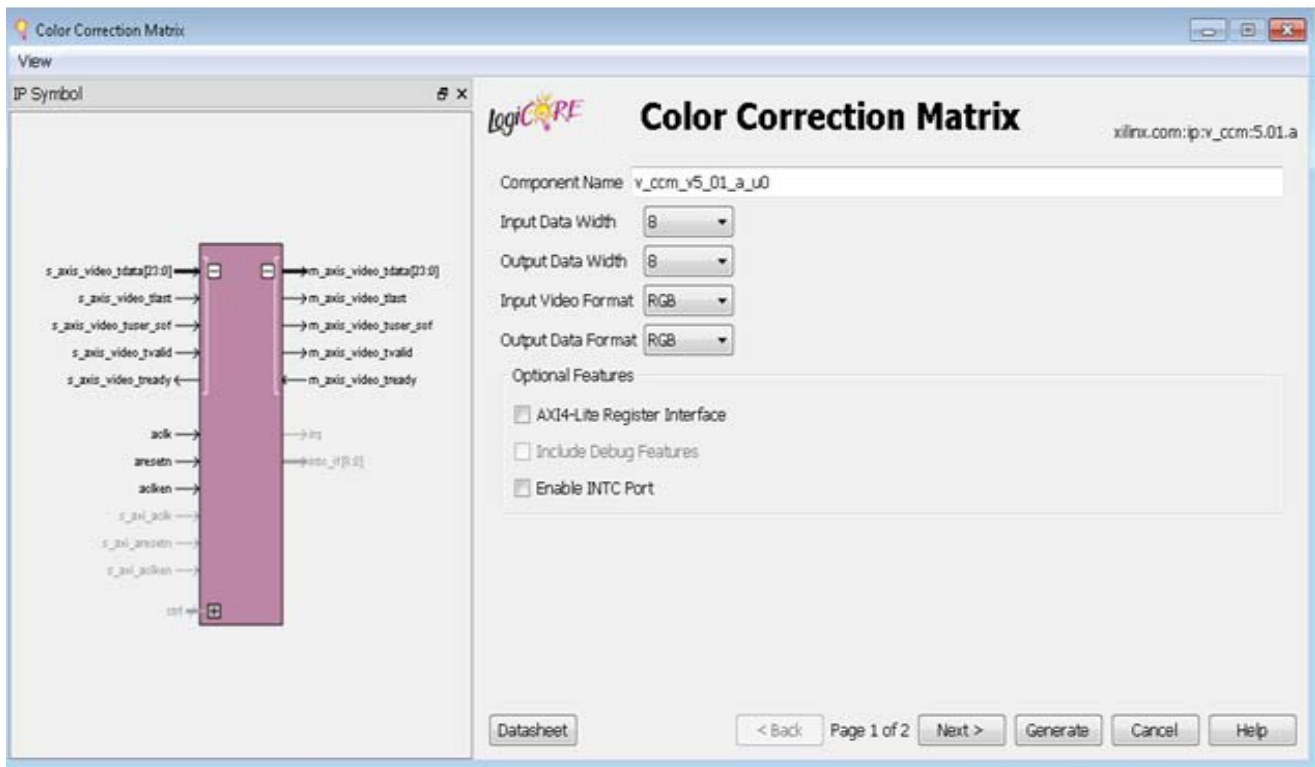
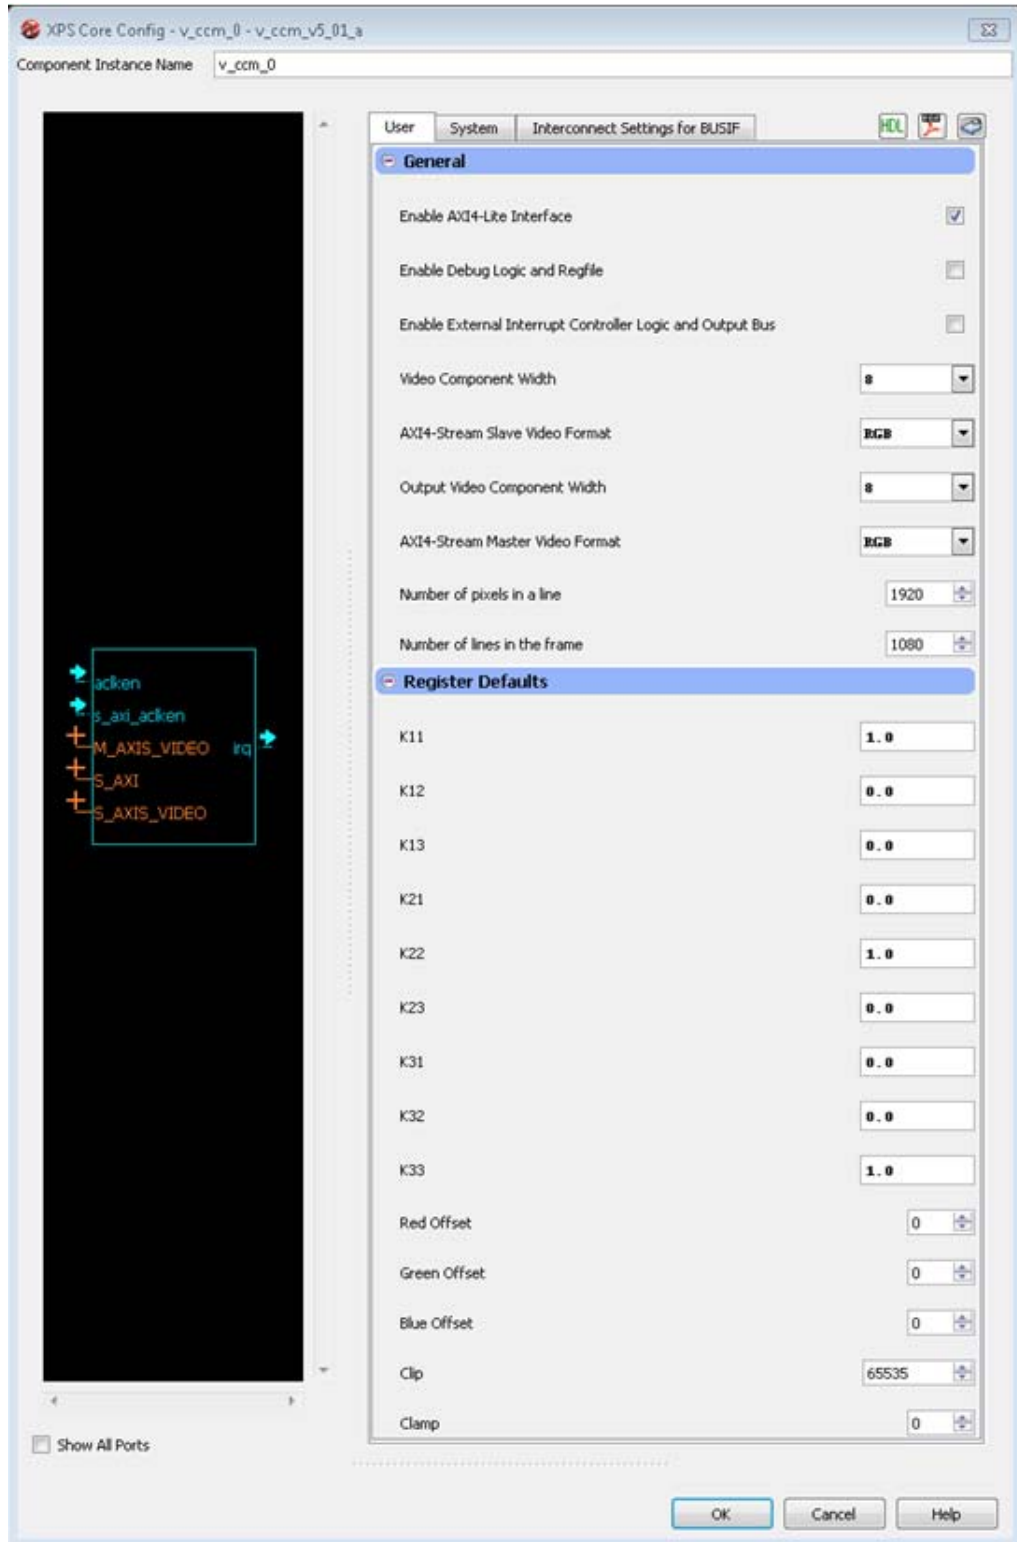

Figure 8-1: Screen 1
Figure 8-3: EDK Graphical User Interface
The first screen (Figure 8-1 for CORE Generator and Figure 8-3 for EDK) shows a representation of the IP symbol on the left side, and the parameters on the right, which are described as follows:
- **Offsets:** Enter the offset coefficients (O in Equation 1-1). These signed coefficients have the same bit width as the output. Enter the offset values (O in Equation 1-1). These signed integer values must be in the range  $[-2^{\text{Out\_Data\_Width}}, 2^{\text{Out\_Data\_Width}}-1]$ , and are 1-bit wider than the Output Data Width specified on the first page of the GUI, as shown in Figure 8-3.